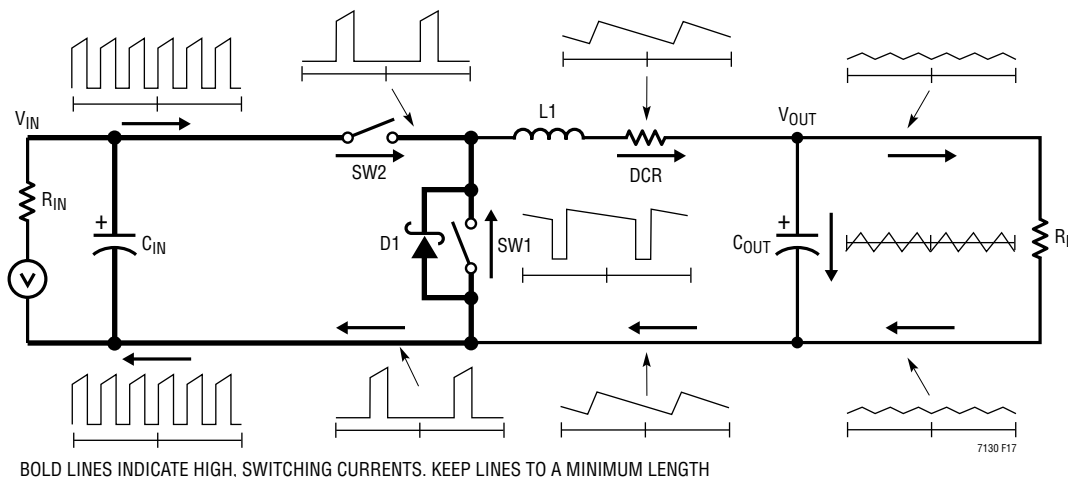

Figure 17. Branch Current Waveforms
When laying out the printed circuit board, the following checklist should be used to ensure proper operation of the IC. These items are also illustrated graphically in the layout diagram of Figure 17. Check the following in the PC layout:
- The 47pF to 330pF ceramic capacitor between the I_{TH} pin and signal ground should be placed as close as possible to the IC. Figure 17 illustrates all branch currents in a switching regulator. It becomes very clear after studying the current waveforms why it is critical to keep the high switching current paths to a small physical size. High electric and magnetic fields will radiate from these *loops* just as radio stations transmit signals. The output capacitor ground should return to the negative terminal of the input capacitor and not share a common ground path with any switched current paths. The left half of the circuit gives rise to the *noise* generated by a switching regulator. The GND terminations and Schottky diode should return to the bottom plate(s) of the input capacitor(s) with a short isolated PC trace since very high switched currents are present. External OPTI-LOOP[®] compensation allows overcompensation for PC layouts which are not optimized but this is not the recommended design procedure.